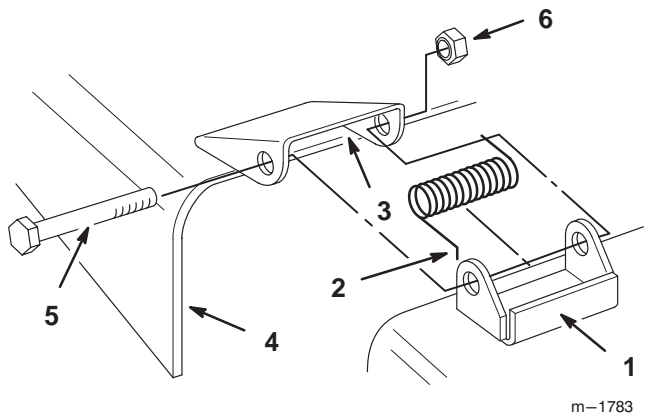

Figure 48
- Remove the locknut, bolt, and spring holding the deflector to the mower brackets (Fig. 48). Remove the damaged or worn grass deflector.
- Place the springs into the brackets on the mower with the hooked ends over the raised back (Fig. 48).
- Align the grass deflector with the holes in the brackets and the spring straight ends in the space under the hinge and above the deflector (Fig. 48).